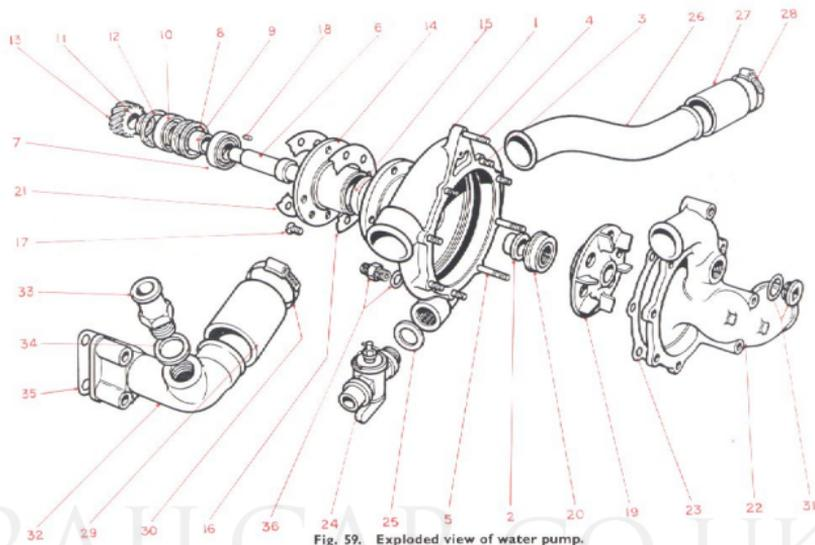

Fig. 59. Exploded view of water pump.
The impeller-type water-pump, mounted on the timing gear case at the front end of the engine-block, is gear-driven from the camshaft gear. A spring-loaded, self-adjusting, carbon seal unit (20), Fig. 59, carried on the driving shaft, completely isolates the